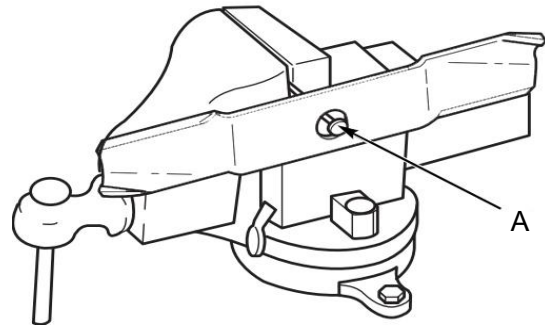

Fig. 13
- Refer to Fig. 13. Put the mower blade on a nail (A) in a vise and turn the mower blade to the horizontal position.